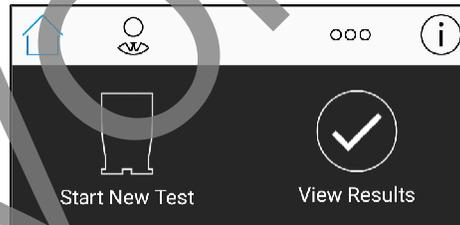

Figure 16. View Results Icon
1. On the Home screen, tap the **View Results** icon (see Figure 16).